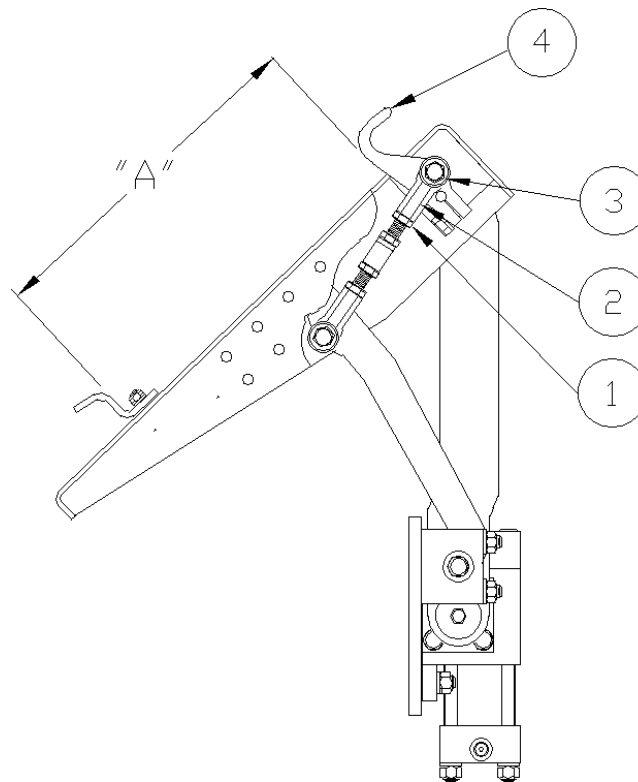

Figure O-2
Check the distance (**A**) (figure O-2) between the saddle and lower hooks when the lifter faceplate is in the **FULL DUMP** position. Maintain this dimension at approximately **14 1/4"** for the proper "locking" of the cart to the lifter. To adjust the setting, loosen the jam nuts (1) on the spherical rod ends (2). Remove the bolts (3) that hold the rod ends to the lower hooks (4). Screw the rod ends in or out as required to obtain the correct dimension at (**A**). Replace the bolts (3) and tighten the jam nuts (1).